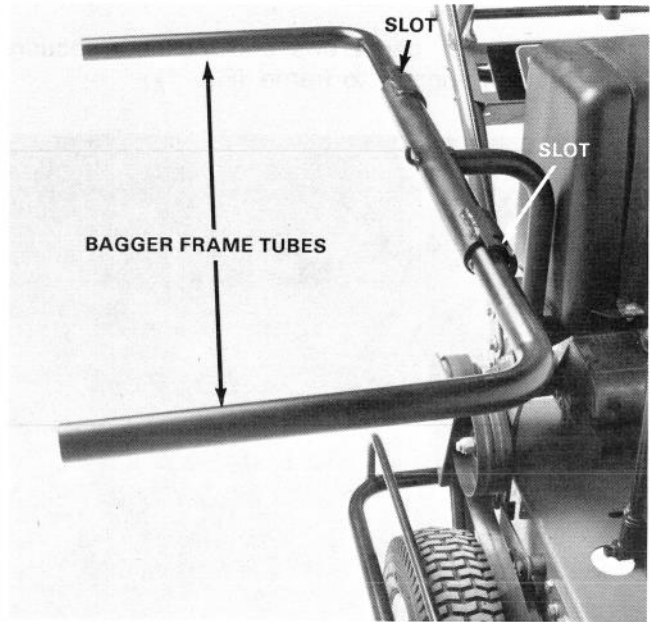

Figure 8
7. Insert a bagger frame tube into each end of bagger support and lock in slots as shown in fig.8.